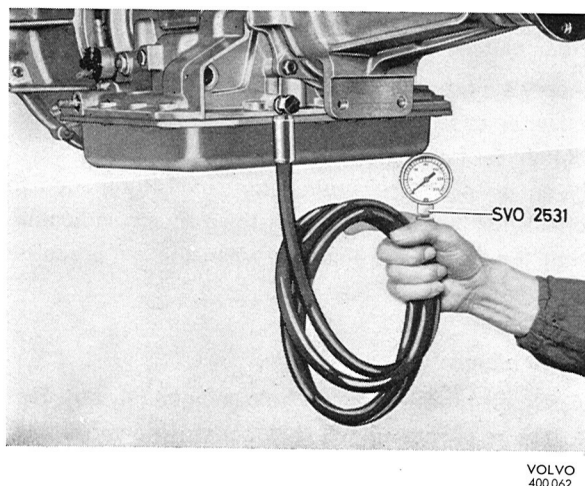

Fig. 4-80. Pressure gauge connection
1. Connect a tachometer to the engine and a pressure gauge to the transmission as shown in Fig. 4-80.